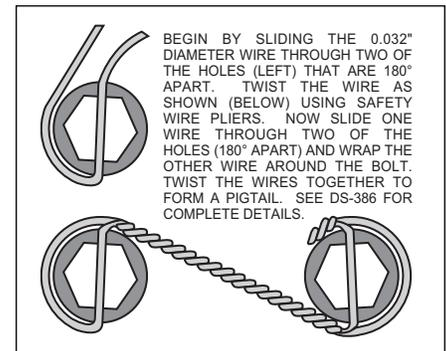

Figure 3. Safety Wire Diagram
- The caliper mounting bracket assembly (1) should be installed first with clean, dry threads on the mounting bolts. The bracket must tighten squarely against the outboard side of the caliper mount bosses on the spindle body. Inspect for interference from casting irregularities, machining ridges, burrs, etc. Slide bolt (2) through lock washer (3) then through the hole in the spindle body where the OEM bolt was removed. Use one thin shim (4) between the bracket and spindle during initial trial fitting. Later, after the caliper, pad and rotor alignment have been checked, and any necessary shims have been put in place, the mount bolts (2) should be coated with red *Loctite*® 271 and torqued to 47 ft-lb.
- With the larger I.D. side of the rotor (5) facing away from the hat (6), bolt rotor (5) to hat (6) through the backside of the rotor using washers (7) and bolts (8). Torque bolts (8) to 85 in-lb. Safety wire bolts (8) using standard 0.032 inch diameter stainless steel safety wire as shown in Figure 3. Please refer to Wilwood's data sheet DS-386 (available at [www.wilwood.org/ds386.pdf](http://www.wilwood.org/ds386.pdf)) for complete safety wire installation instructions. Slide the rotor/hat assembly onto the spindle. Install a couple of lug nuts (hand tighten) to keep the rotor/hat assembly in place while continuing with the installation.
- NOTE:** Please reference the caution statement at the beginning of the assembly instructions. With the bleed screws pointing up, mount the caliper (9) onto the caliper bracket (1) with the self locking hex nut (10), flat washer (11), through the top of the caliper and mounting stud (12) with flat washer (13) and spacer (14) positioned between caliper (9) and caliper mounting bracket (1). Finger tighten. Check to see that the top of the rotor is aligned with the top of the brake pad. If adjustment is necessary, add or subtract flat washers (13). View the rotor (5) through the top opening of the caliper (9). The rotor (5) should be aligned in the center of the caliper (9). If not, adjust the caliper (9) by using 0.033 inch thick shims (4) placed between the spindle assembly and the caliper mounting bracket (1). Finger tighten and recheck alignment. Lubricate caliper mounting studs and nuts with lightweight oil, reinstall the caliper, torque the caliper nuts (10) to 30-35 ft-lb.
- Remove the bridge bolt from the caliper (9) and install the disc brake pads (15). Reinstall the caliper bridge bolt.